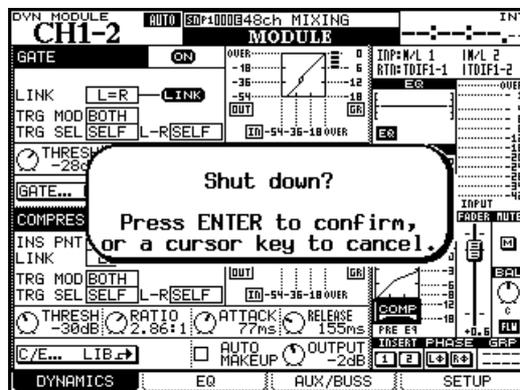

Figure 2.19: Shutting down the DM-3200
- 3 A popup message (Figure 2.19, *Shutting down the DM-3200*) appears. Press **ENTER** to continue with the shutdown, or any of the cursor keys to cancel the operation.